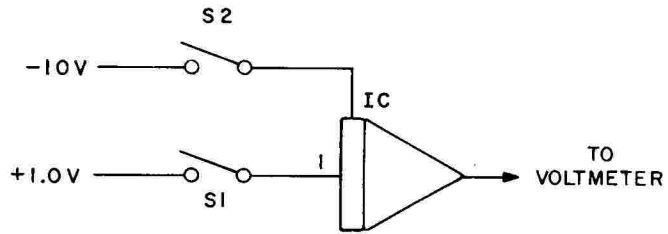

Figure 20. Operational Check Circuit
(1) Connect the circuit shown in Figure 20. Open both switches. Switch the computer to RESET. Close switch 1; the amplifier output should measure zero volts. Close switch 2; the amplifier output should measure +10 volts.
(2) Switch the computer to HOLD. The amplifier output should measure +10 volts.
(3) Switch the computer to OPERATE. The output of the integrator should change linearly from +10 volts to -10 volts at the rate of minus one volt-per-second. (If a stopwatch is available, this rate can be checked with sufficient accuracy for maintenance purposes. If qualitative measurements are to be made, more elaborate time measuring equipment if required.) After